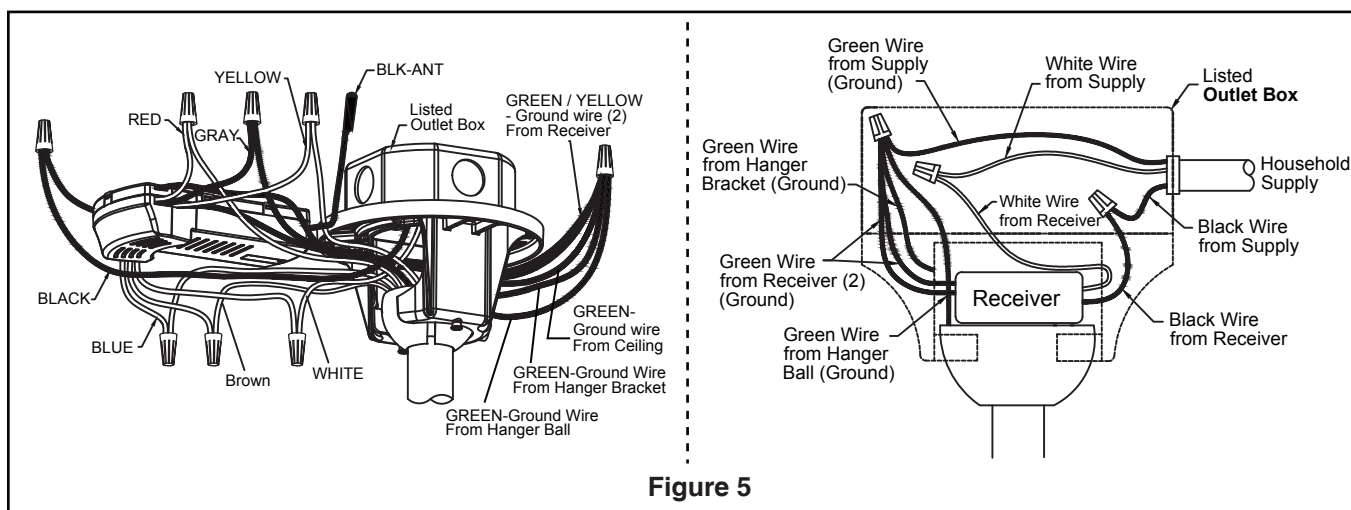

Figure 5
- ☐ 5. Route wires and safety cable through motor coupling cover, canopy screw cover and ceiling canopy. (Figure 5)
4. After connections have been made, put the white and green leads to one side and the black leads towards the other side, the connection should be turned upward and carefully push leads into the outlet box. The wires should be spread apart with the grounded conductor and the equipment-grounding conductor on one side of the outlet box and the ungrounded conductor on the other side. (Figure 5)
☐ **7.** To set the remote code same positions as the receiver with a small screwdriver or ball point pen (neither included), slide dip switches firmly up or down. (Figure 5)